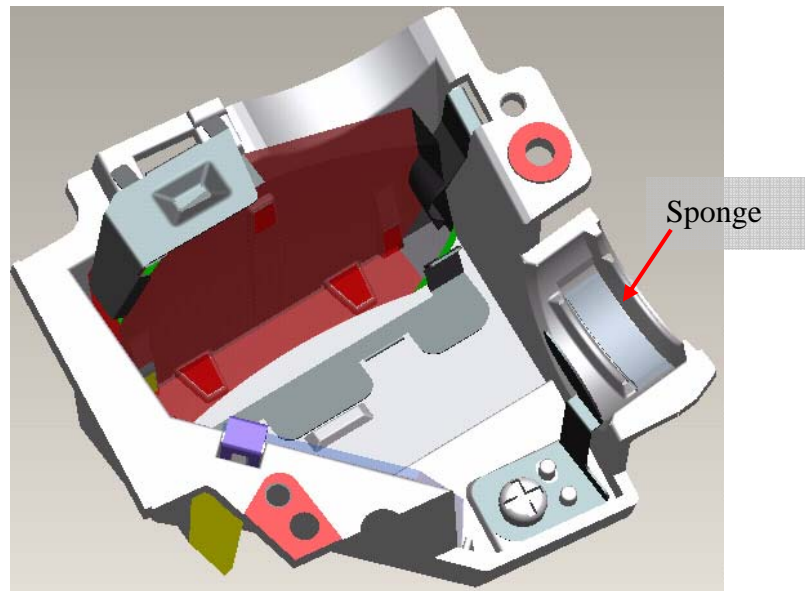

Fig. 6-11
- VIII. Paste Sponge tube AL on cannellure of HSG ILL(Fig. 6-11)